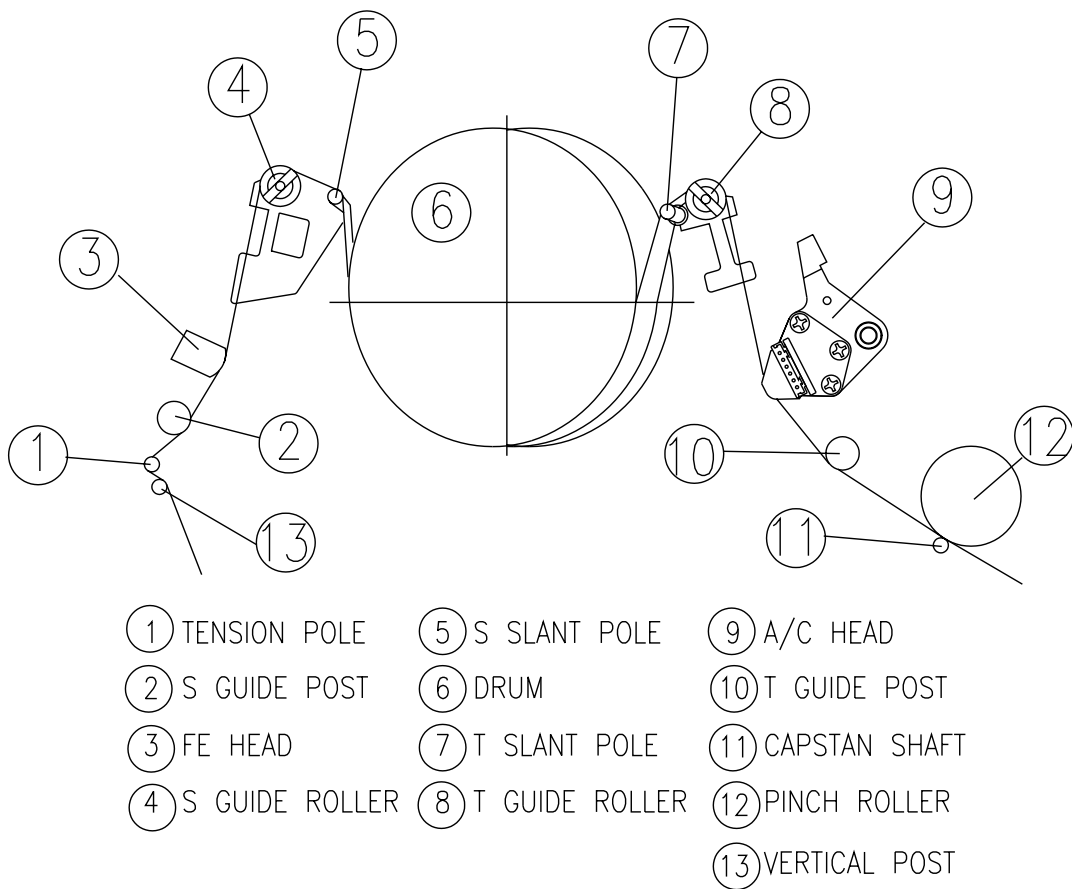

Fig. 5-1 THE SCHEMATIC DIAGRAM OF TAPE TRANSPORTING SYSTEM
When the parts as shown in Fig. 5-1 are replaced, the TAPE TRANSPORTING SYSTEM has changed. To prevent this, it is essential to know thoroughly and observe the following INSTRUCTIONS.
- Play back a T-120 Tape and check the running condition of the TAPE at the lower flanges of the T GUIDE POST ASS'Y as shown in Fig. 5-1.